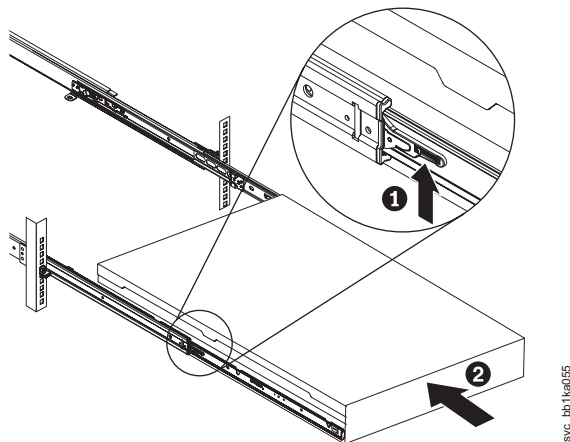

Figure 139. Raising the SAN Volume Controller 2145-CF8 or 2145-CG8 locking levers of the slide rails of the rack
9. Lift the locking levers (**1** in Figure 139) on the slide rails and push the server **2** all the way into the rack until it clicks into place.